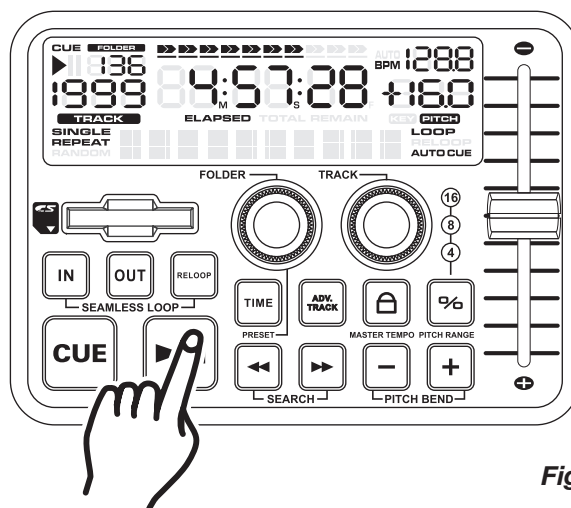
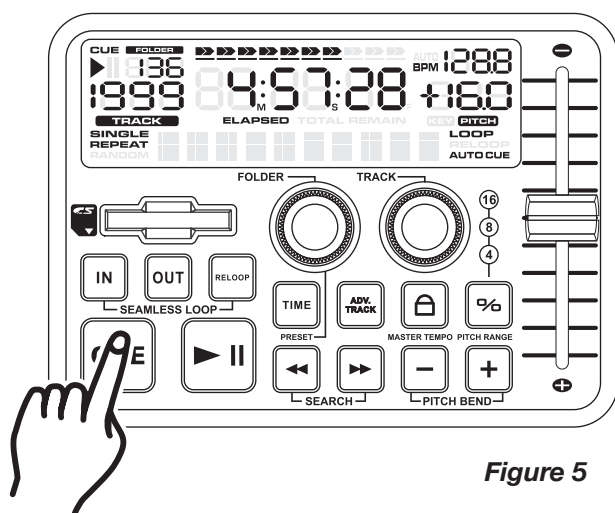
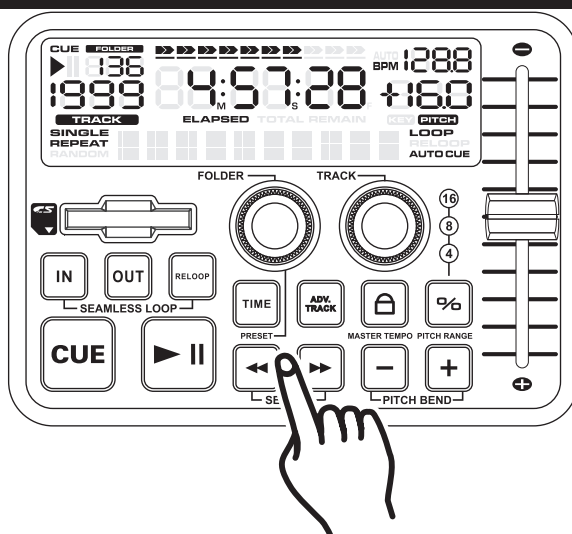

Figure 4
Figure 5
Figure 6
3. STARTING PLAYBACK - Figure 4
4. PAUSING - Figure 4
6. STOPPING PLAYBACK - Figures 4 & 5
This feature allows you to scroll through a track frame by frame, allowing you to find and set a starting cue or loop point. To use the scroll function you must first be in Pause Mode (see section 4) or Cue Mode (see section 5). Once you are in Pause or Cue mode, press the *SEARCH BUTTONS* (32) to scroll through the track (Figure 6). When you use the *SEARCH BUTTONS* (32) the monitor (headphone level) function allows you to hear what you are scrolling through. Once you reach your desired starting point you can set a cue (starting) point by pressing the *PLAY/PAUSE BUTTON* (34) as in Figure 4. Pressing the *CUE BUTTON* (35) as in Figure 5 will now return you to the point you just set.